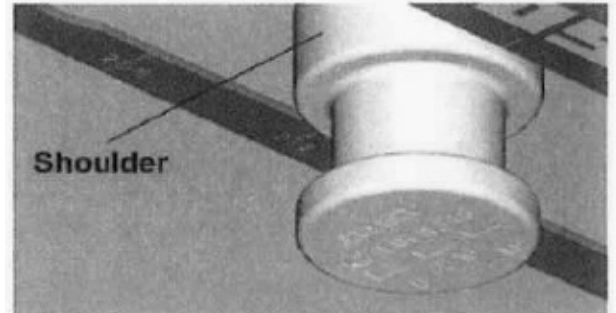

FIGURE 2
- A. Repeat the above procedure using the large slot on the shoulder of the Kingpin (see figure 2).